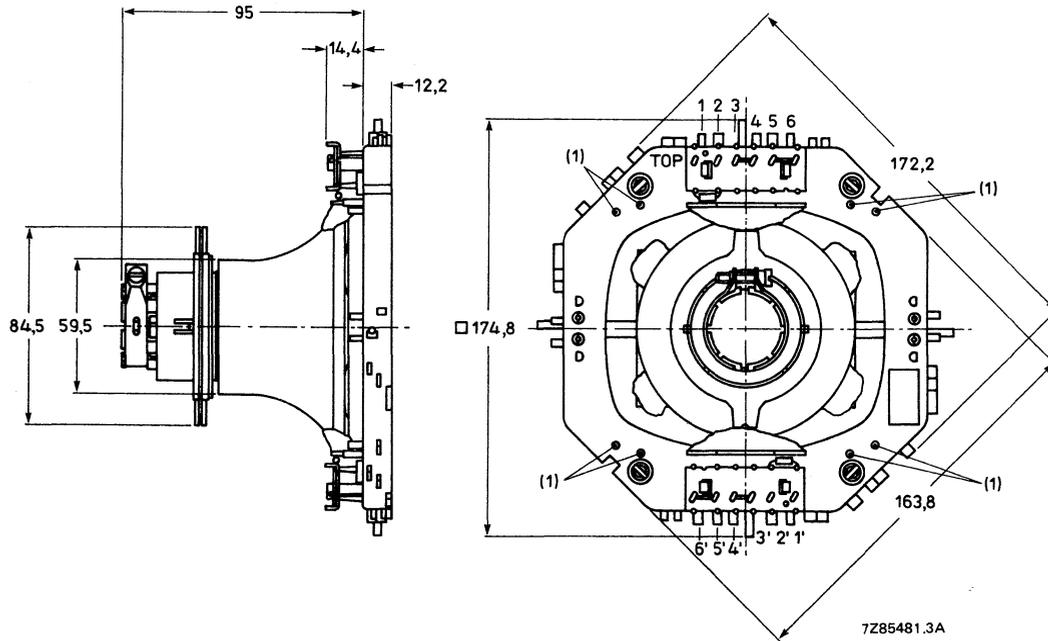
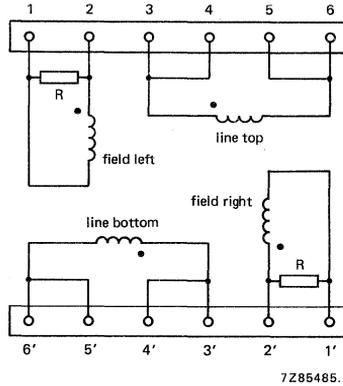

Fig. 1 Deflection unit AT1039/16.
Fig. 2 Diagram of line and field coils; R = 270 Ω. The beginning of the windings is indicated with ●.
If a further improvement of raster geometry is required use can be made of correction magnets*, which must be fitted to mounting posts (1). The unit has solder pins for connection. The pin numbering in Fig. 1 corresponds to that in Fig. 2.